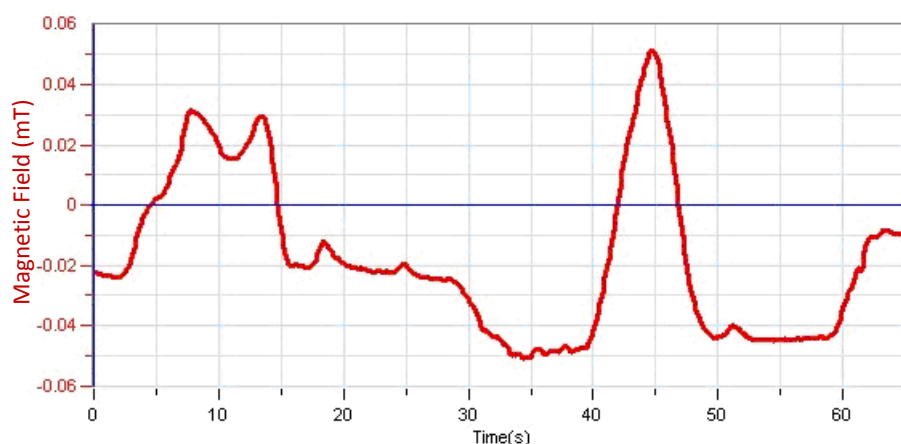

Figure 2
4. Find the angle for which the readings are maximal and remain in this position (see Figure 2). Now rotate the sensor a full circle in a vertical plane.